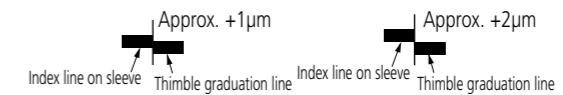

Fig. 3
2. The width of the graduation lines represent approximately 2μm to aid in reading to the nearest 1μm. (Fig. 3)